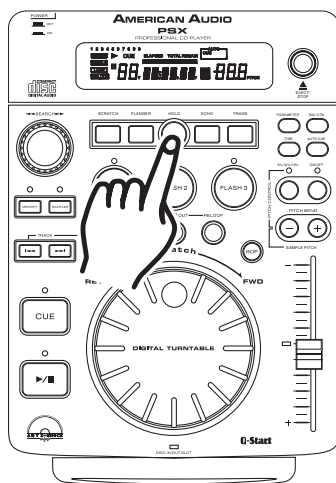

Figure 52
HOLD BUTTON: Use the *HOLD BUTTON* (2) to lock your customized parameters. If the hold button is not activated any changes to your parameters will be momentary. To activate the hold function press the *HOLD BUTTON* (2) as in figure 52. When the hold function becomes activated, the hold button will begin to glow blue.